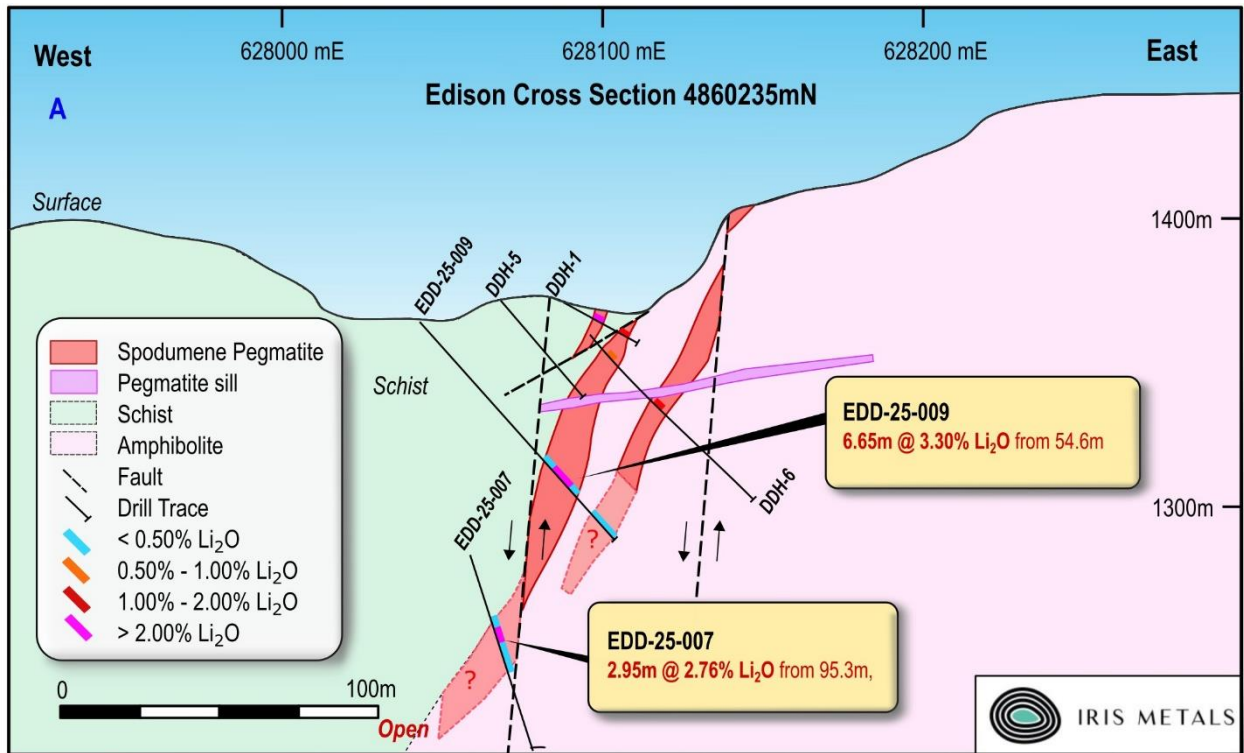

Figure 2: Section A-A'
- **Figure 2:** Presents a cross-section highlighting the geometries of mineralisation for significant intercepts reported in this release